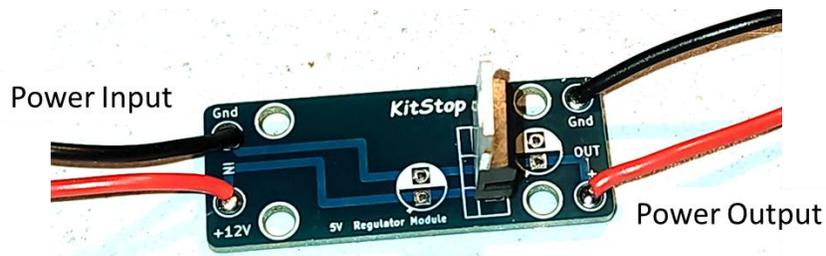

Fig. 5: Showing the red and black wire connections to the Voltage Regulator Module.
Step 3: Identify the INPUT and OUTPUT side of the Regulator Module. Attach the red and black wires to the marked terminals. Refer to Figure 5 to identify the wires.